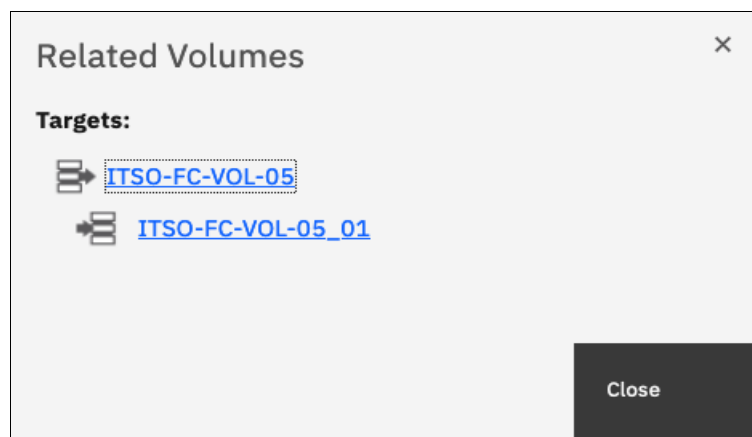

Figure 10-44 Showing related volumes list
3. In the related volumes window, you can see the related mapping for a volume, as shown in Figure 10-44. If you click one of these volumes, you can see its properties.